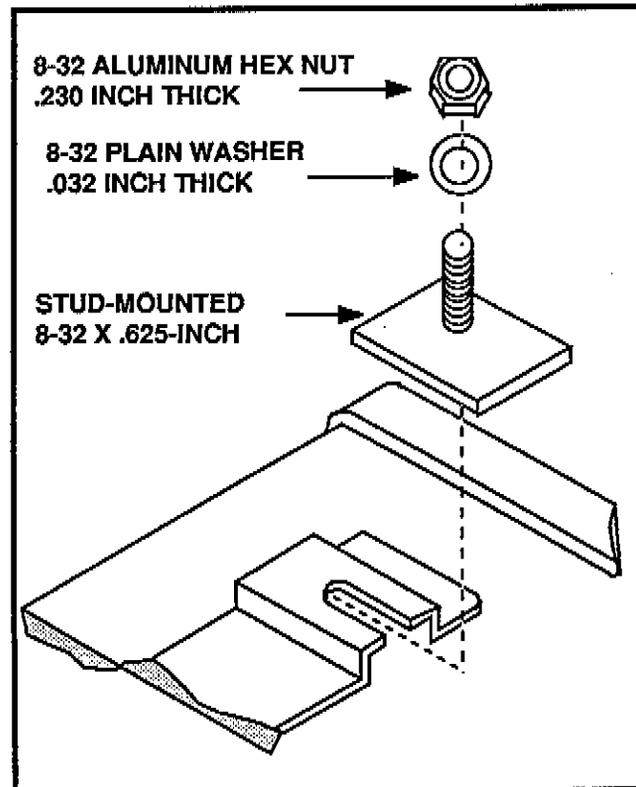

Figure 6-1. Installing a stud into a mounting strip.
2. Slide the four (4) studs, from the mounting kit, into the slots on the mounting strip and bolt them in place using the washers and the thick 8-32 nuts. See Figure 6-1. Tighten the four nuts finger tight so the studs will still move in the slot.
3. Now place the adapter plate assembly, with the slotted feet up, on the mounting studs and install the four (4) plain nuts to hold the plate assembly on the studs.